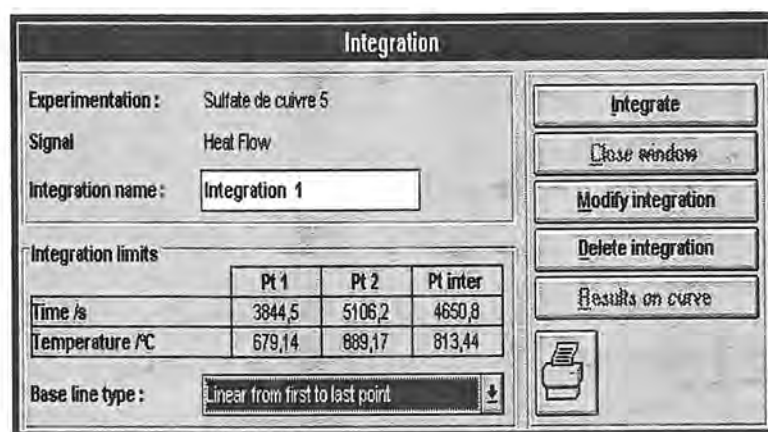

Figure 59 : Integration window before a base line is selected.
- Modify it if not satisfactory: click on **Modify integration** shown on Figure 59 and the former integration is then lost.